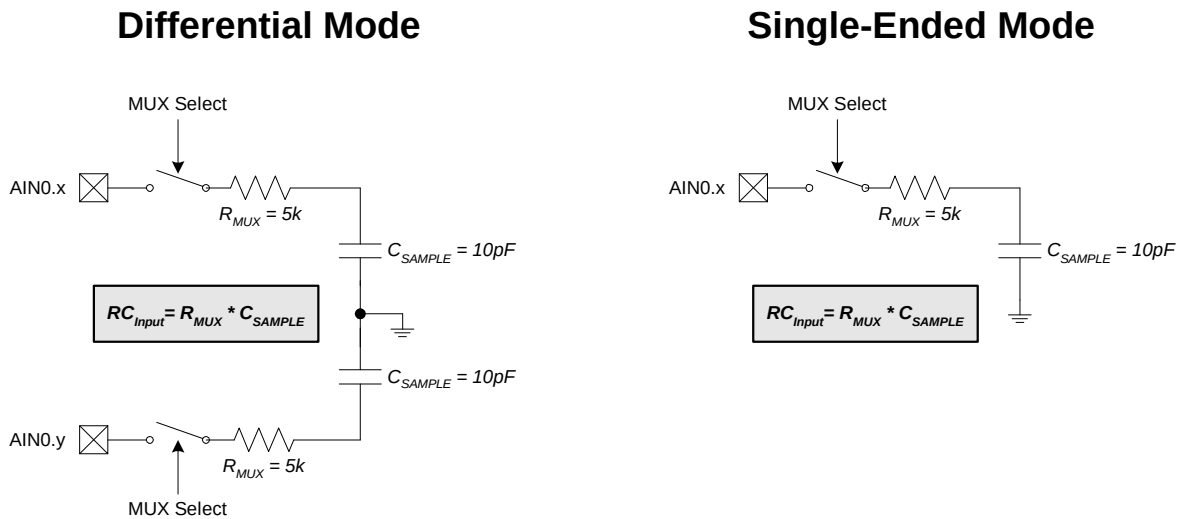

**Figure 6.4. ADC0 Equivalent Input Circuits**
A minimum tracking time is required before an accurate conversion can be performed. This tracking time is determined by the ADC0 MUX resistance, the ADC0 sampling capacitance, any external source resistance, and the accuracy required for the conversion. Figure 6.4 shows the equivalent ADC0 input circuits for both Differential and Single-ended modes. Notice that the equivalent time constant for both input circuits is the same. The required settling time for a given settling accuracy (SA) may be approximated by Equation 6.1. When measuring the Temperature Sensor output,  $R_{TOTAL}$  reduces to  $R_{MUX}$ . An absolute minimum settling time of 1.5  $\mu$ s is required after any MUX or PGA selection. Note that in low-power tracking mode, three SAR clocks are used for tracking at the start of every conversion. For most applications, these three SAR clocks will meet the tracking requirements.